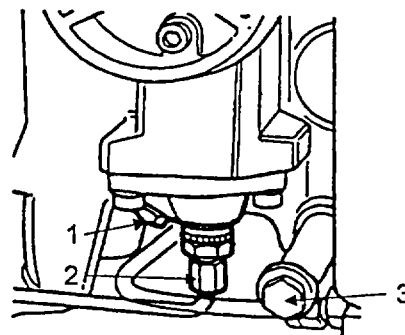

FIGURE 3-9. COMPRESSOR OIL PUMP AND DRAIN PLUG
4. Remove the oil drain plug from the compressor, (figure 3-9, item 3).
b. Slowly loosen the tube nut (Figure 3-9, Item 2).